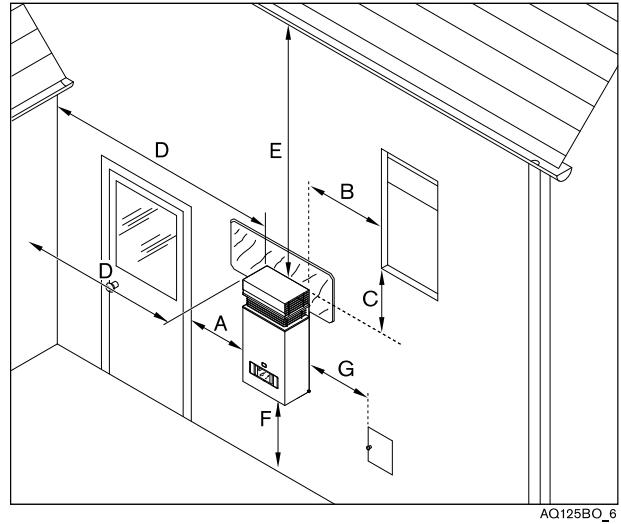

Fig. 5
- If the unit is to be installed on a combustible surface use the enclosed heat shield (see Fig. 5).